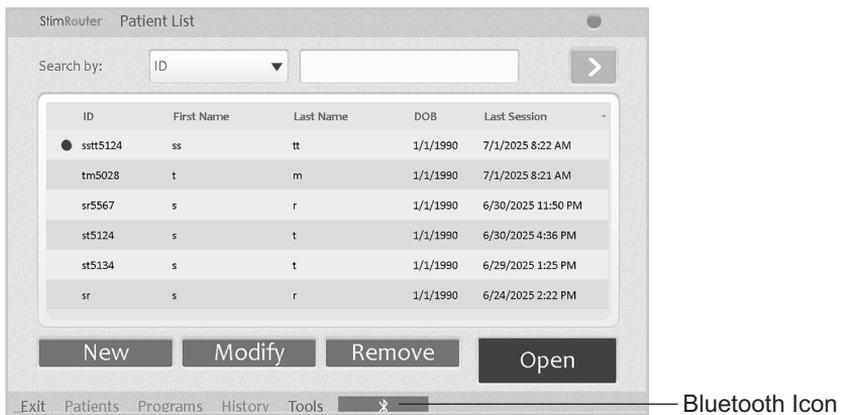

Figure 7-4: Bluetooth Icon on the Patient List screen.
3. Press the blue “Bluetooth” button on the bottom of the Patient List screen in the Clinician Programming software. The E-EFC and Clinician Programmer will connect. See Figure 7-4.